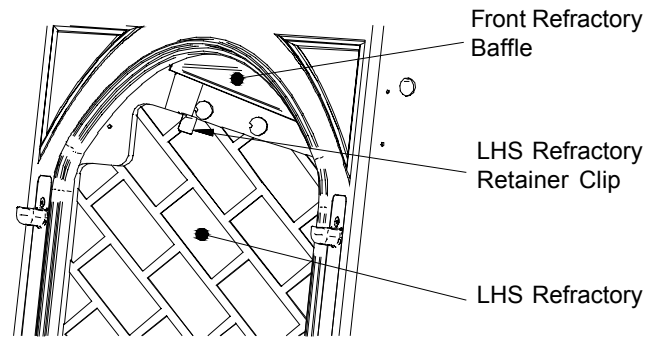

FIGURE 5 -Refractory Retainer Clip
Step 3. Remove the left hand side Refractory Retainer Clip by pushing up slightly on the front top Refractory Baffle and rotating the clip toward the front (see Figure 5).